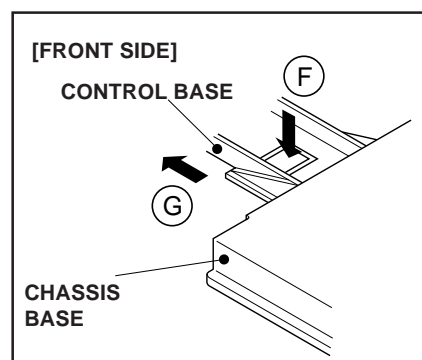

Fig. 3
1. While pushing down the claws marked "F", remove the CONTROL BASE forward (in the arrow direction marked "G"). (See Fig. 3.)